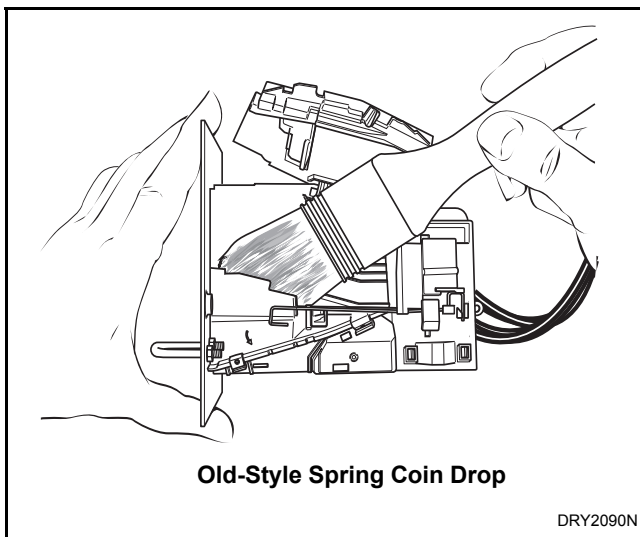

Figure 29
- d. Clean the coin path with a soft brush and wipe exposed surfaces with an alcohol moistened cloth. Refer to *Figure 29* or *Figure 30*.